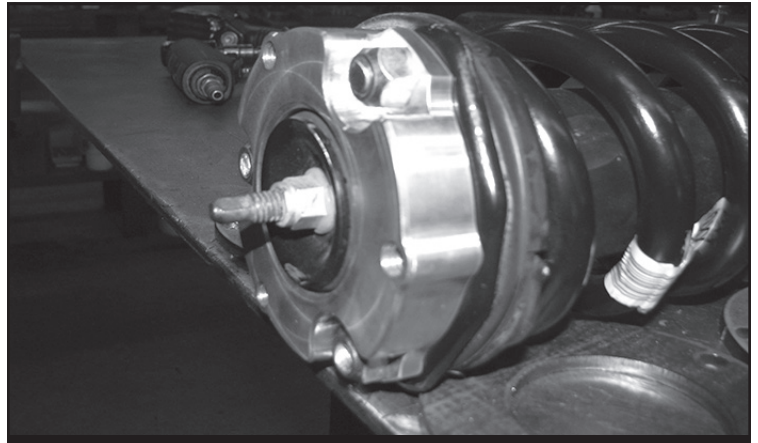

FIGURE 9 - STEP 8
8. Locate the FT30612 (shock spacer) and 10mm c-lock nuts. Install the FT30612 on the factory coilover. Torque to 58 ft-lbs. **SEE FIGURE 9**